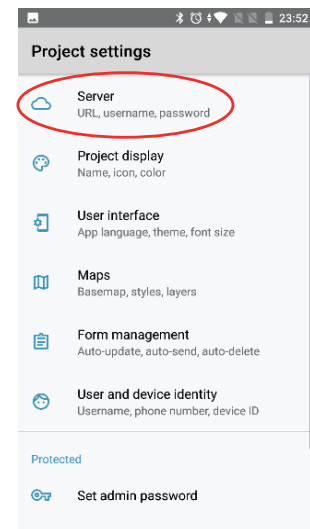

Figure 31: KoBoCollect - Accessing Server Settings
2. Once on Project Settings, click on "Server" in order to enter details and access the PCRAFI II account containing the PCRAFI II data collection templates (Figure 31). Enter username and password (Figure(s) 32-33).